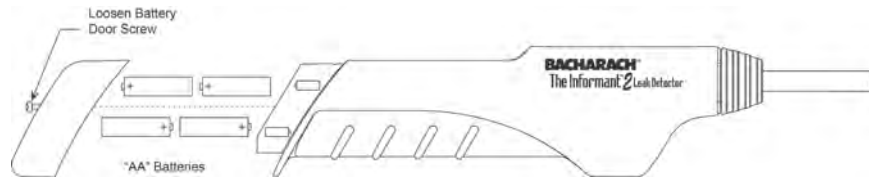

Figure 2. Battery Installation
1. See Figure 2. Using a #1 Phillips screwdriver, first loosen the battery door screw located at the rear of the detector; then remove the door.